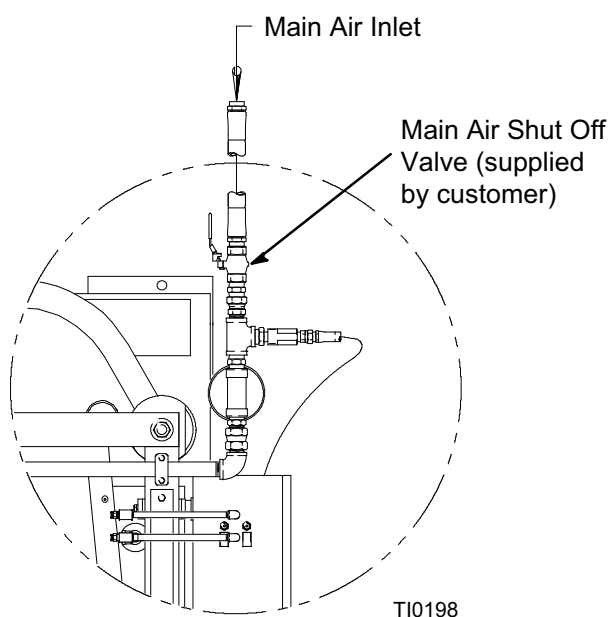

FIG. 10
To stop the system, close the main air shut off valve (see FIG. 10) to the Supply Unit.
1. Open the main air shut off valve to the Supply Unit (see FIG. 10).